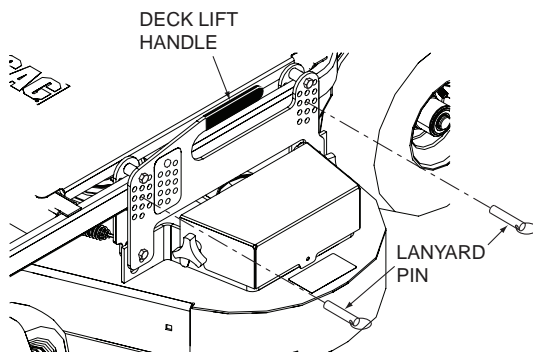

Figure 4-3. Adjusting Cutting Height
3. Lift upward on the deck lift handle and remove the lanyard pins. See Figure 4-3.
4. Insert the lanyard pins into the cutting height index at the desired cutting height and lower the cutter deck. See Figure 4-3. Deck height decals are located on the cutting height indexes as an aid in adjusting the deck to the desired height. See Figure 4-4.